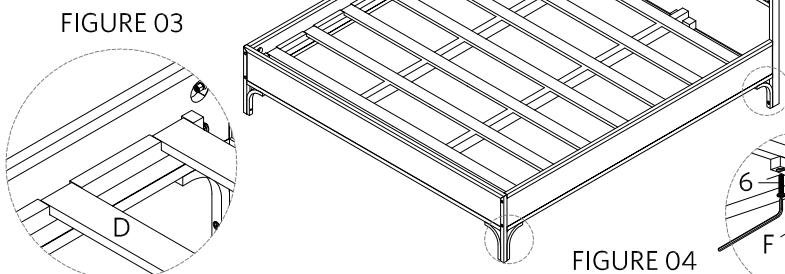

FIGURE 03
7. On inside surface of both side rails (B) are cavities designed to hold the individual bed slats (E). Set individual bed slats (E) on both sides of the side rails (B) as illustrated in FIGURE 03.